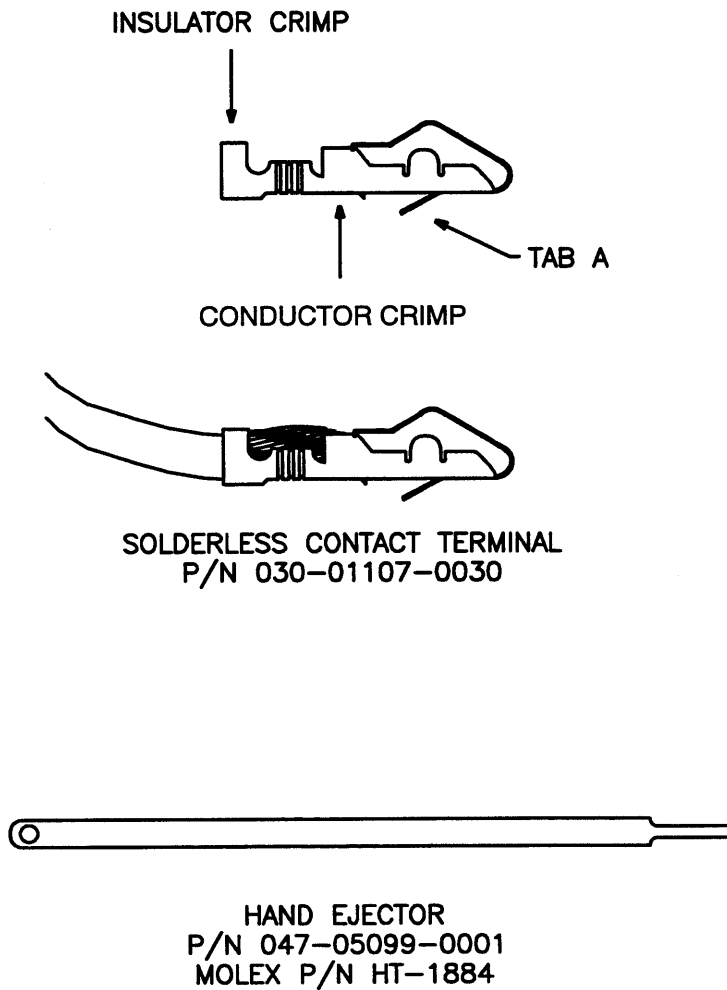

Figure 2-1 Molex Terminals and Tools
- A. Contact Terminal Assembly using Molex Crimper (See Figure 2-1)
3. Neither the contact or position is damaged by removing a contact; however, the contact should be visually checked before reinstalling to be certain that retaining tab "A" extends as shown in Figure 2-1 for retention in connector.